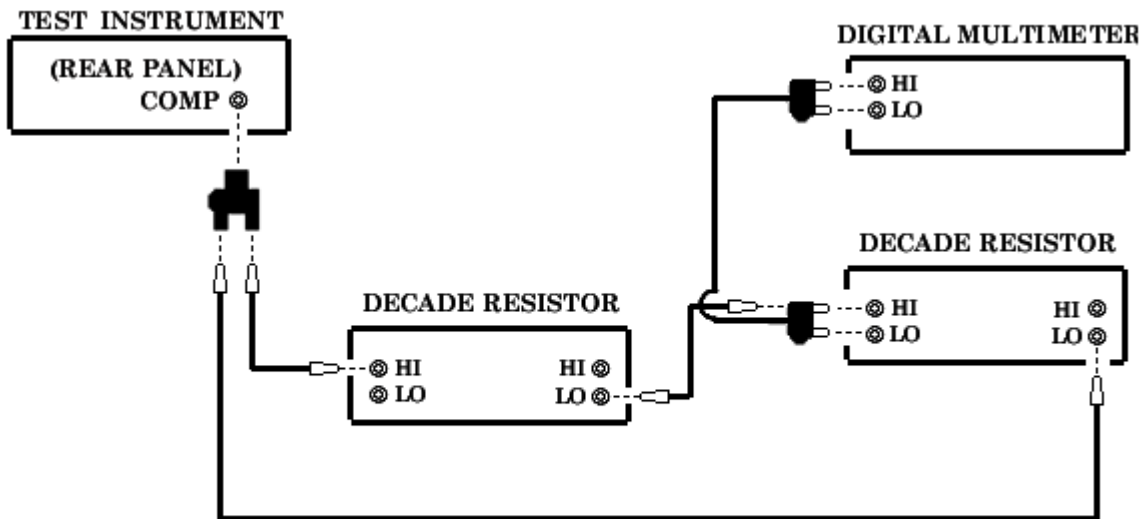

Figure 3. Localizer DDM - equipment setup.
- (1) Connect digital multimeter to TI **COMP** output (rear panel).
- (2) Press **FUNCTION/CONTROL STD** pushbutton and enter a frequency of 108.10 MHz into TI.
- (3) Press **TONE SELECT 90 Hz** pushbutton (all other **TONE SELECT** pushbuttons off). Record digital multimeter indication
- (4) Press **TONE SELECT 150 Hz** pushbutton (all other **TONE SELECT** pushbuttons off). Record digital multimeter indication.
- (5) Divide the measured value of one tone by the other to determine the voltage ratio. If calculated ratio is not between 0.99950 and 1.00050, perform **b** (1) through (3) below.
(6) Press **TONE SELECT 1020 Hz** pushbutton (all other **TONE SELECT** pushbuttons off). If digital multimeter does not indicate between 1.4985 and 1.5015 V rms, perform **b** (4) below.
(7) Connect digital multimeter to TI **DEMOD** output (rear panel). Repeat (3) through (5) above. Calculated ratio will be between 0.99720 and 1.00280.
(8) Connect equipment as shown in figure 3.
(9) Set each decade resistor to 47 k $\Omega$ .
(10) Press **TONE SELECT 90 Hz** pushbutton (all other **TONE SELECT** pushbuttons off) and enter a **DDM** setting of 0.046 into TI. Record digital multimeter indication.
(11) Press **TONE SELECT 150 Hz** pushbuttons (all other pushbuttons off). Record digital multimeter indication.
(1) Connect digital multimeter to **TI COMP** output (rear panel).
(2) Press **FUNCTION/CONTROL STD** pushbutton and enter a frequency of 335.00 MHz into TI.
(3) Press **TONE SELECT 90 Hz** pushbutton (all other **TONE SELECT** pushbuttons off). Record digital multimeter indication.
(4) Press **TONE SELECT 150 Hz** pushbutton (all other **TONE SELECT** pushbuttons off). Record digital multimeter indication.
(5) Divide the measured value of one tone by the other to determine the voltage ratio. Calculated ratio will be between 0.99975 and 1.00025.
(6) Connect digital multimeter to **TI DEMOD** output (rear panel).
(7) Repeat (3) through (5) above. Calculated ratio will be between 0.99745 and 1.00255.
(8) Connect equipment as shown in figure 3. Set decade resistor to 47 k $\Omega$ .
(9) Press **TONE SELECT 90 Hz** pushbutton (all other **TONE SELECT** pushbuttons off) and enter a **DDM** setting of 0.045 into TI. Record digital multimeter indication.